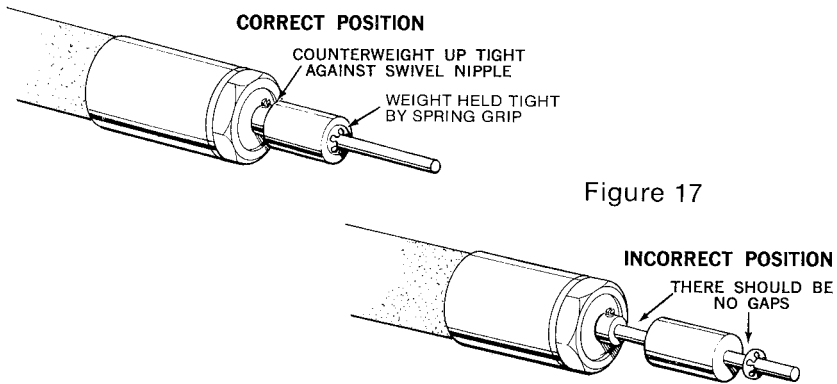

Figure 17
8. Counterweights are on all tube assemblies except the 2½", 3" and K-long or short tube assemblies. These weights provide a counterbalance which controls the weight of the Sensing Rod as it bears on the cone during firing. In this way firing performance is equalized between Sensing Rods of different lengths. The counterweight must be positioned up tight against the swivel nipple, held in place by the sliding spring grip. See Figure 17.